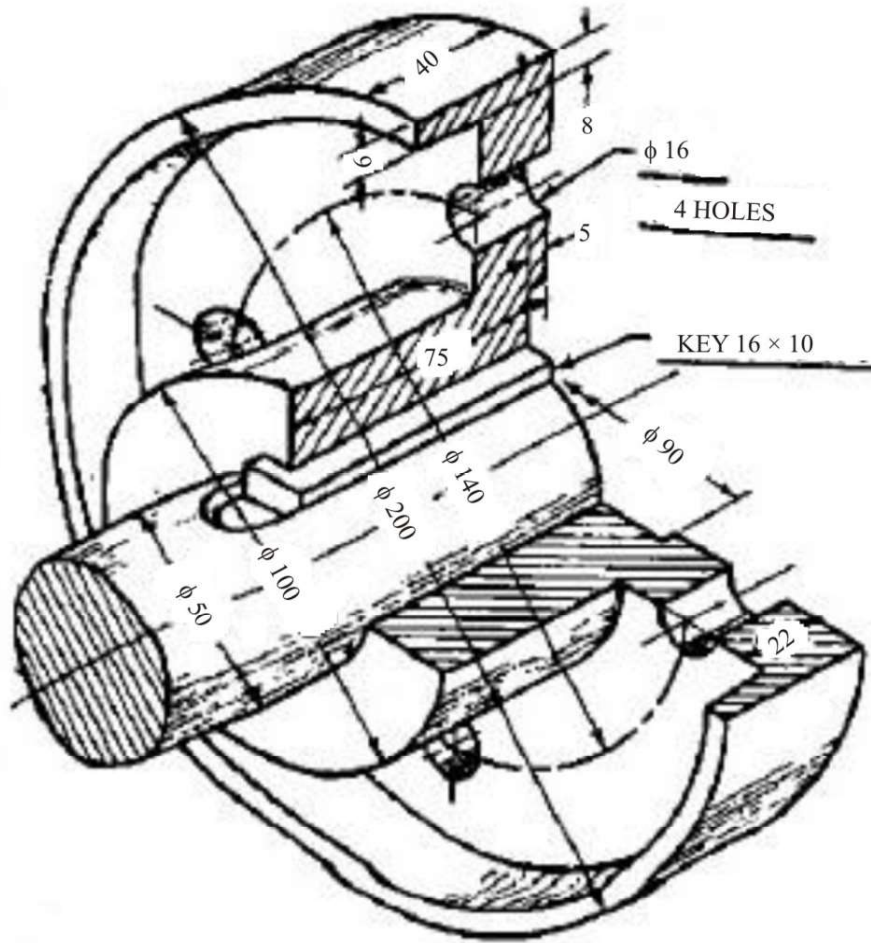

Fig. 2
8. **Figure 2** shows flanges, Keys and shafts to be connected in flanges coupling, assemble and draw elevation and side view in full. Note that nuts and bolts are to be added.